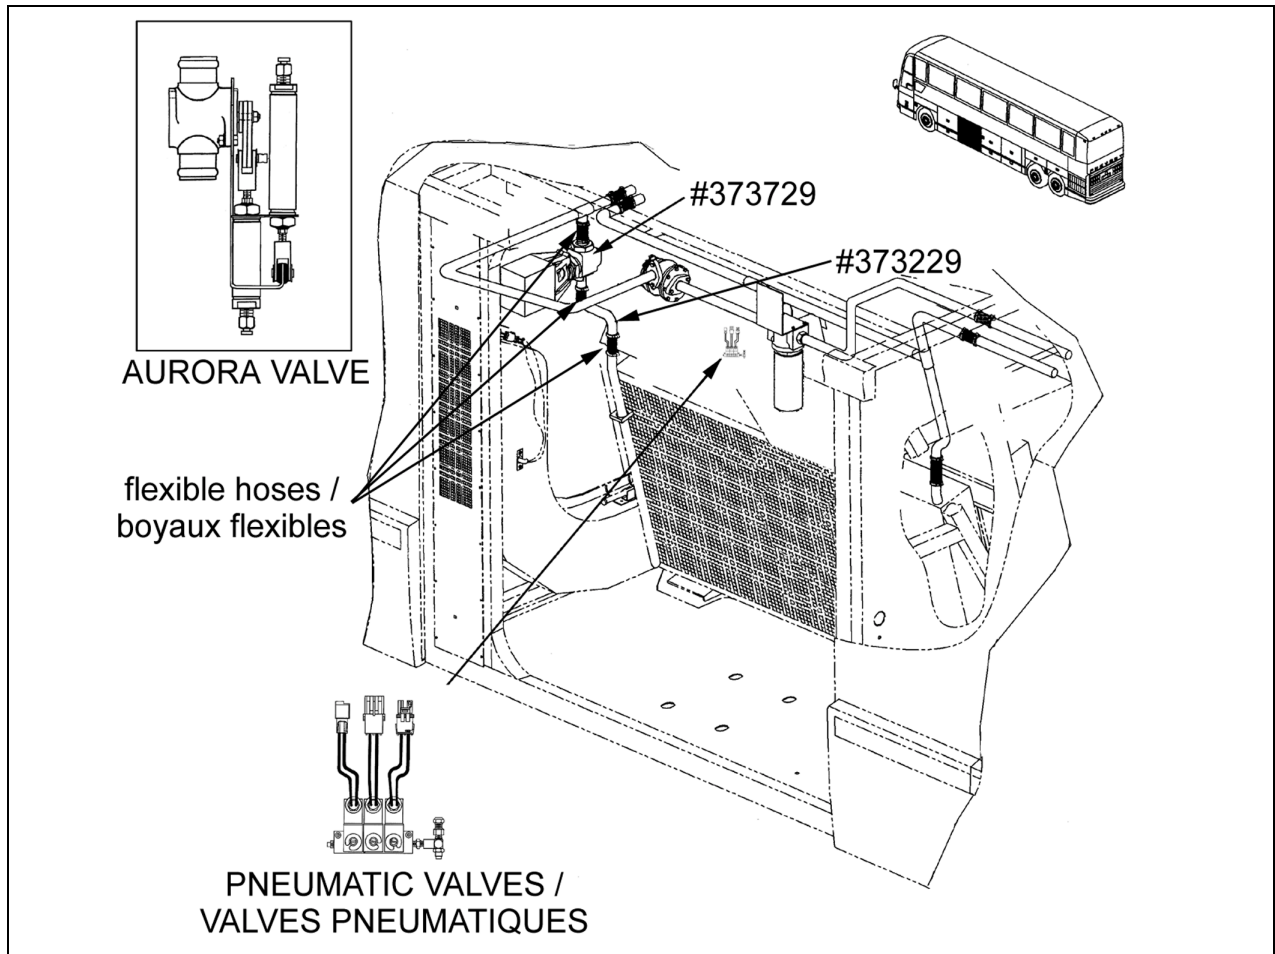

FIGURE 1 : EVAPORATOR COMPARTMENT
2. In evaporator compartment, remove Aurora valve (Prévost part #870964) (see figure 1). Remove the air lines supplying the Aurora valve.
6. Unplug connectors C155 & C156 from pneumatic valves (figure 1) and connect to C155 & C156 of valve harness #065552. Using air lines retaining clips, route harness #065552 up to Honeywell valve and plug connector CV to valve. Fix harness with nylon ties.